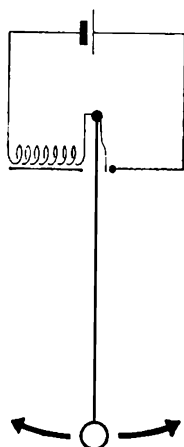
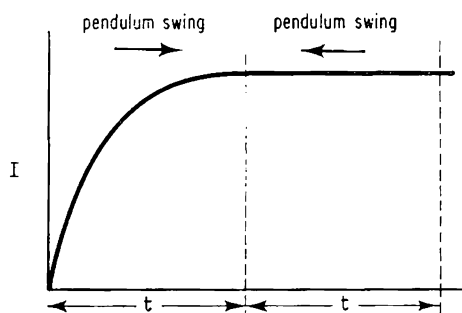

Fig. 350
Fig. 351
vibrations will die down. Fig. 350 illustrates one way of doing this. The electromagnet pulls the iron pendulum to the left when the bob is over at the right hand side of its swing. Notice, however, that when the contact is first made, as the pendulum moves over to the right, the magnet will tend to slow the pendulum down. If the same current were flowing all the time, the retardation would be the same as the acceleration and the pendulum would eventually stop. *Can you explain why the circuit shown does maintain the pendulum swings, remembering that the current through a coil builds up as shown in Fig. 351?* (11)